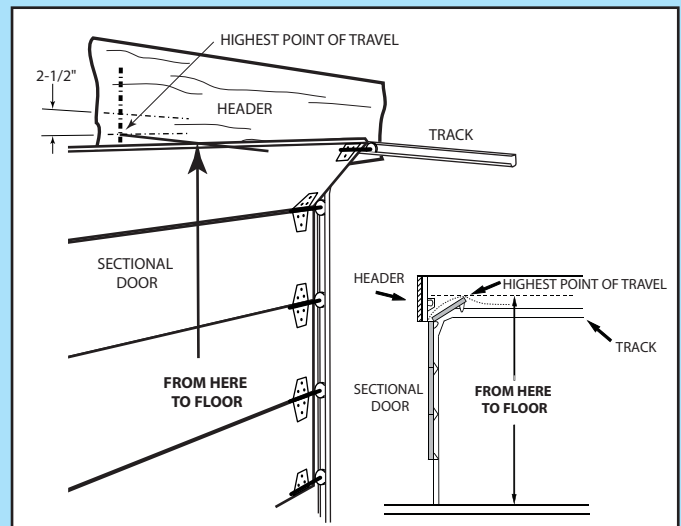

FIG. 2-2 Finding highest point of travel.
- Raise garage door until **top edge** of door reaches its maximum height (Fig. 2-2).
- Measure height from top edge of door to floor (Fig. 2-2).